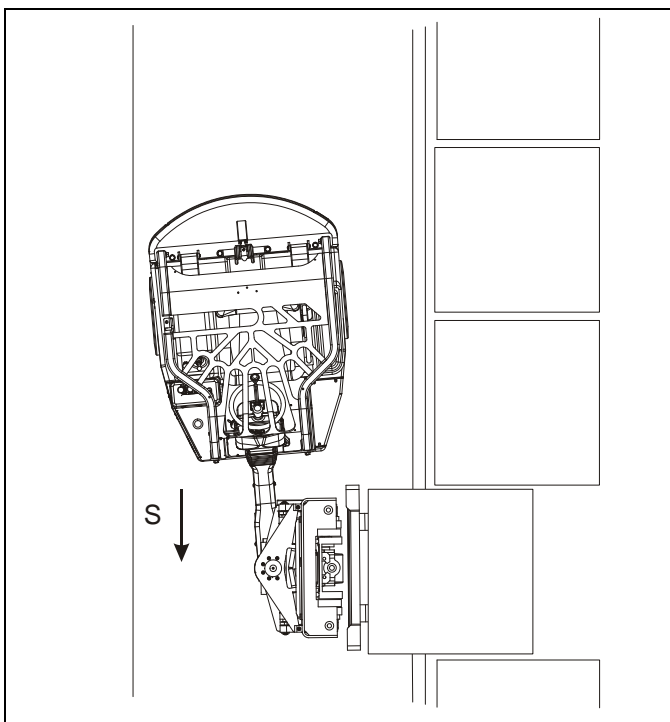

Figure 4-22: Straighten the Load for Drop-Off
7. Drive forward and straighten out the load using the steering wheel so it is square over the stack. See Figure 4-22.